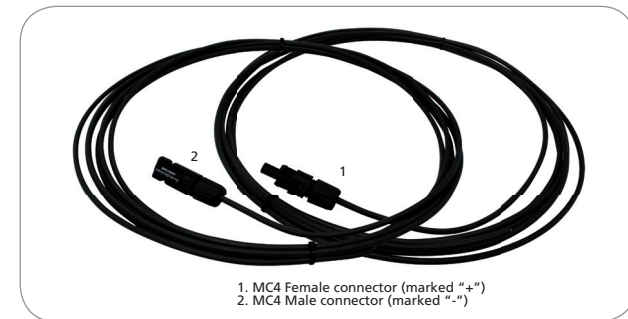

Fig. 1. SCW-20-2 Solar Panel Connecting Wires
The SCW-20-2 Solar Panel Connecting Wire Kit (Fig. 1) contains (2) 20 ft wires pre-assembled with a male and female MC4 connector on one end of each; the other end is blunt. These wires are used to connect the output of the solar panel to the various components of a solar installation. The wire used has the following specifications: